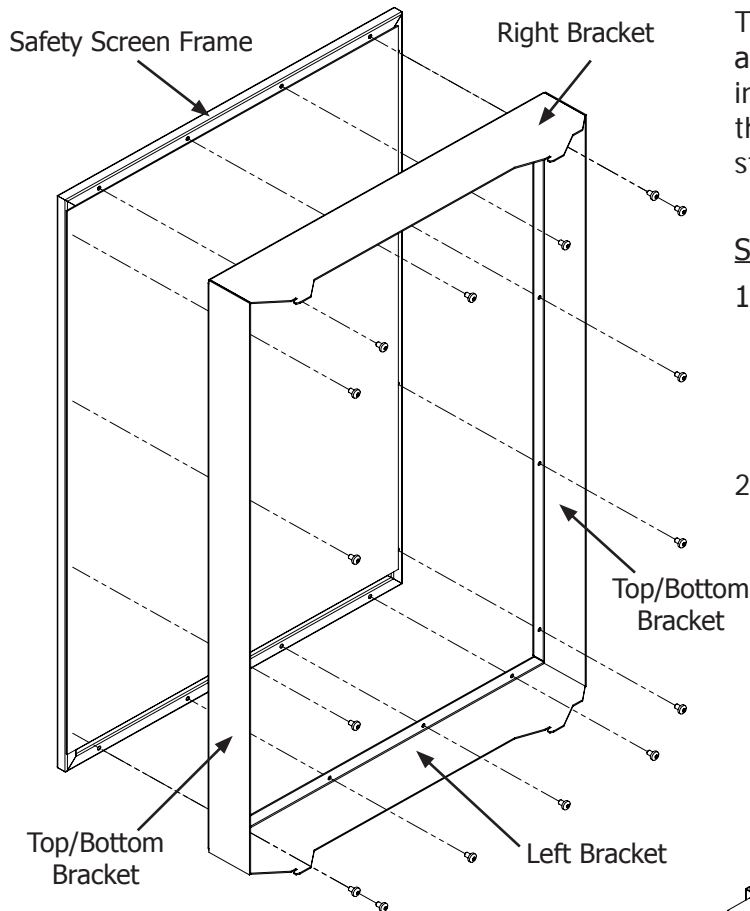

Figure 30: Installing Safety Screen Mounts.
1. Attach the left, right, top/bottom brackets onto the safety screen using a T20 screwdriver and the supplied sixteen (16) #8 T20 screws (see Figure 30). Do not over-tighten the screws, doing so could cause them to strip out of the screen frame.